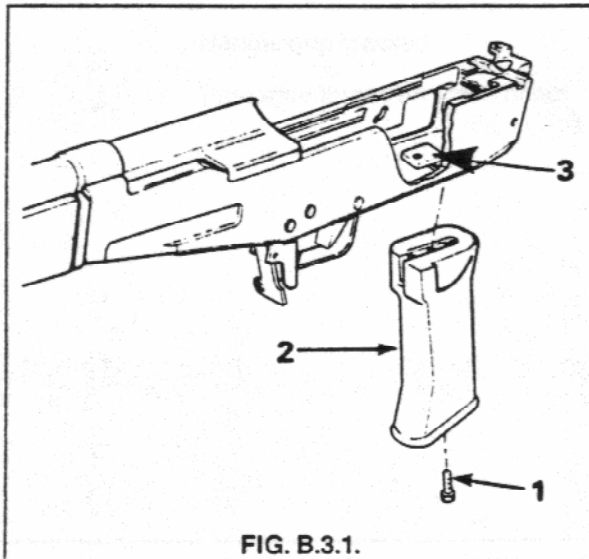

FIG. B.3.1.
2. The grip handle group consists of the following components as illustrated in Fig. B.3.1.